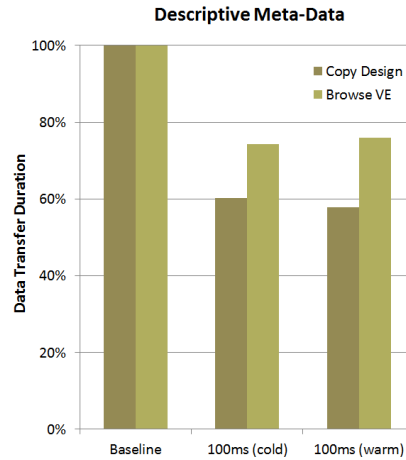

Figure 9 - Test 2 results of product structure inquiry and copy design from a remote client
In this second remote client test, a designer uses Autodesk Vault Explorer (VE) to browse an assembly product structure and perform a copy design operation to duplicate the product structure into a new variant, for example. Both of these operations are metadata-intensive, which means the information sent across the network is comprised of descriptive metadata (data about the data) originating from Autodesk Vault, re-sent for each inquiry (no concept of mixed data), and independent from the original authoring application. Again, the results of this test demonstrate the combination of Autodesk Vault and Riverbed WAN optimization technology offers significant advantages for global collaboration that requires use of the most current design data. Figure 9 to the right reveals an approximate improvement of 40% for the Copy Design function and 25% for the Browse VE over baseline results.